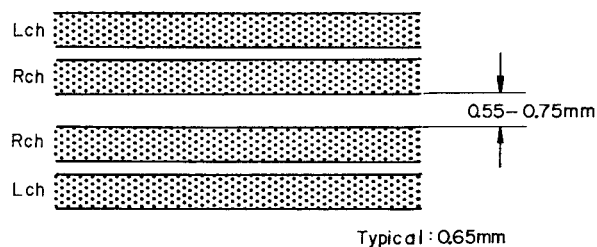

Fig. 4.20
- Immerse the recorded tape in a magnetized developing solution. In turn, check to insure that the recording head tracks across the center are separated with a distance of 0.55 to 0.75 mm (typically 0.65 mm) as illustrated in Fig. 4.20.